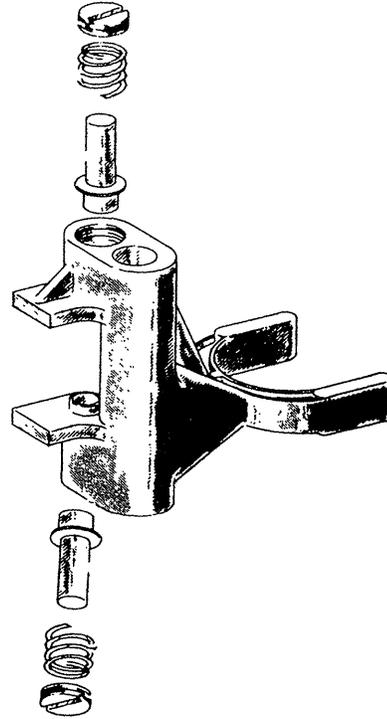

Fig. 5-4
- B. The shifter yoke assembly consist of the yoke casting, two plungers and two springs (Fig. 5-4).